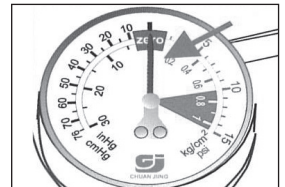

Figure 1
- Confirm the pressure gauge is at zero before operating. Press the “PUSH” button to reset the gauge (Figure 1).